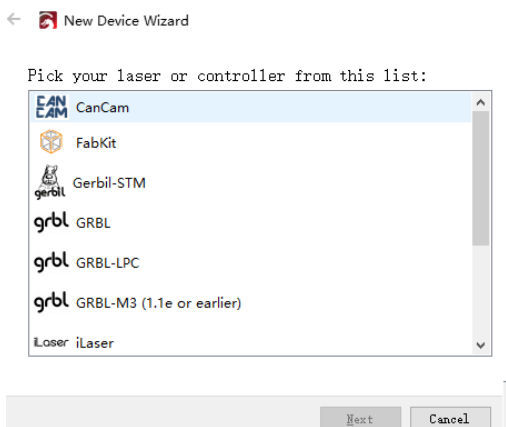

Figure 5.1, New Device Adding
- ① Select GRBL and click Next (Figure 5.1)